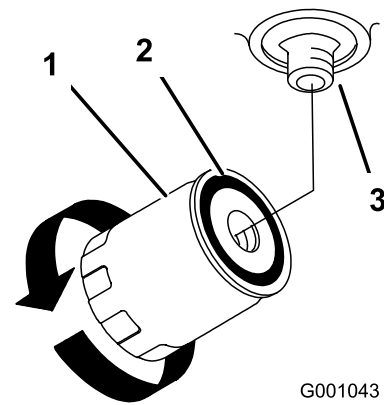

Figure 89
7. Apply a thin coat to the rubber gasket on the replacement filter (Figure 89).
9. Fill the hydraulic tank with hydraulic fluid until the fluid overflows the filter and then turn the fluid filter clockwise until the rubber gasket contacts the filter adapter, then tighten the filter an additional 1/2 turn (Figure 89).